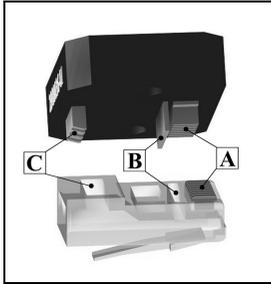

Fig.1.
- ❑ With dies sets **only** microplugs of **appropriate type** must be used. Crimping microplugs of unsuitable type may result with unsatisfactory characteristics of crimped connections and eventually with damaging of the tools and is to be strictly avoided. Prior to crimping, please check the alignment of the microplug to the dies set. Check the alignment (Fig.1) of contact crimp comb with contacts (A) and primary (C) and secondary (B) strain relief (if any).
- ❑ Fig.1. represents unshielded 8P microplug and corresponding part of dies set. Choose dies sets correspondingly.
**① Check at the back of this brochure for available dies sets.**